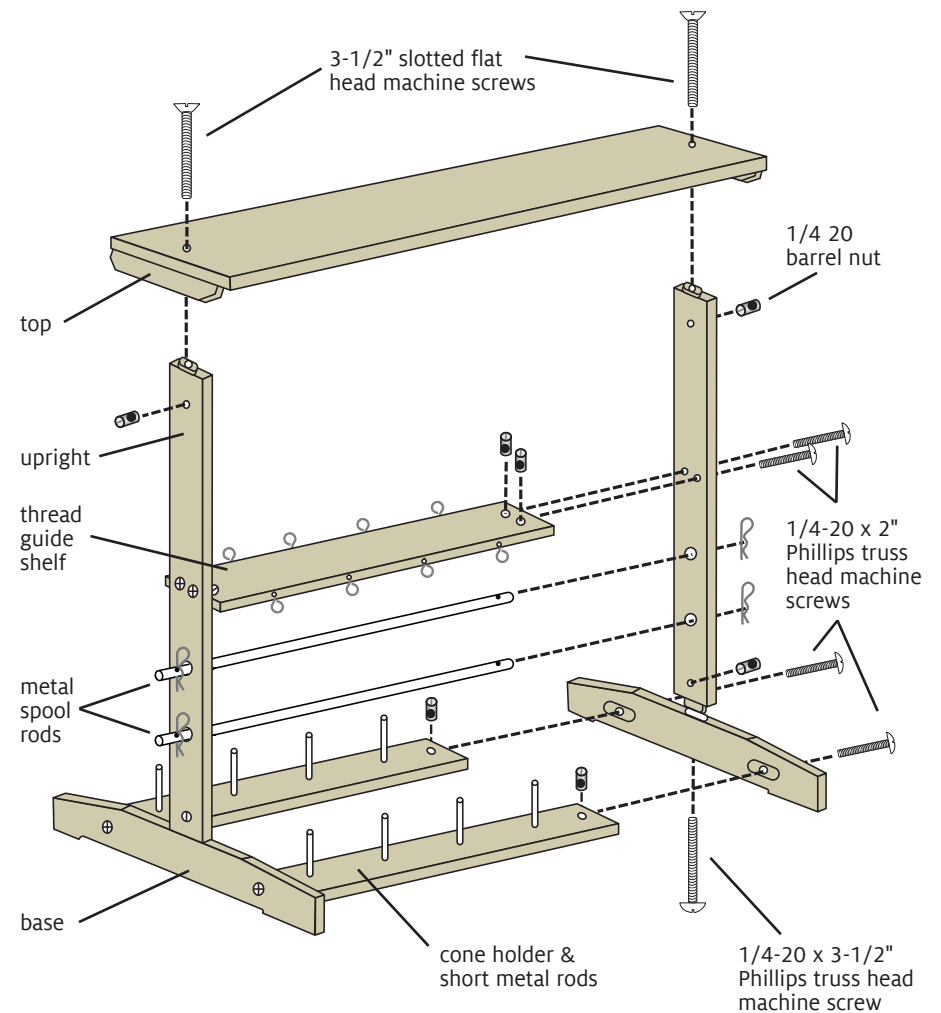

FIGURE 1: WINDING STATION ASSEMBLY
3. Attach the uprights to the bases using a 1/4-20 x 3-1/2" slotted flat head machine screw and a 1/4-20 barrel nut. Orient the holes in the uprights as shown in Figure 1.